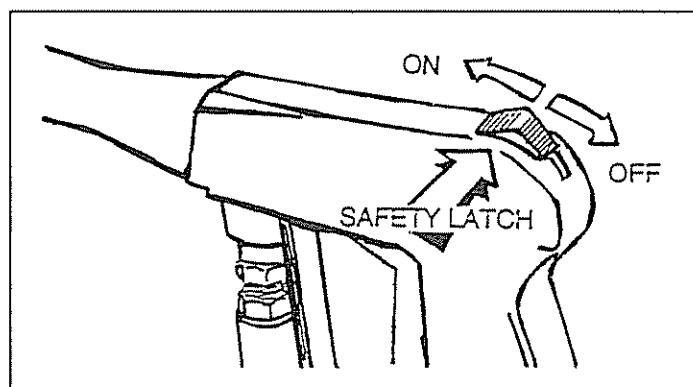

FIG. 19
- Adjust safety latch on spray gun to the ON position. This disables the trigger so you cannot inadvertently actuate a high pressure spray (Fig. 19).